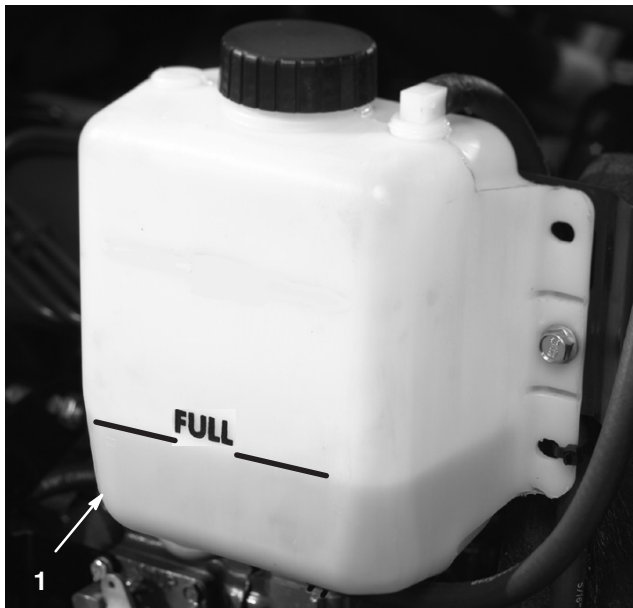

Figure 3
1. Carefully remove the radiator cap and expansion tank cap (Fig. 3).